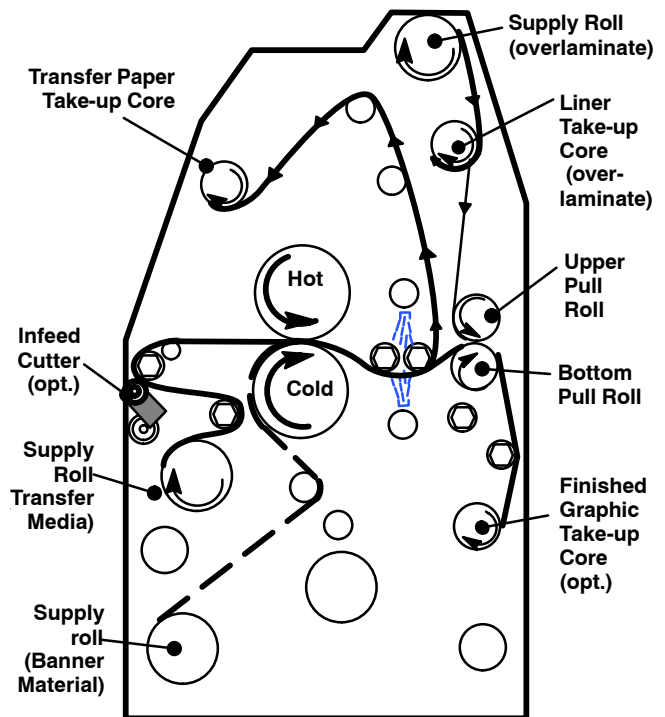

Figure 1. For Front Surface Imaging:
- Figure 1 shows how to thread banner material and Trident transfer media on an ORCA III laminator. You may apply a recommended overlamine during the same transfer process by threading it as shown.